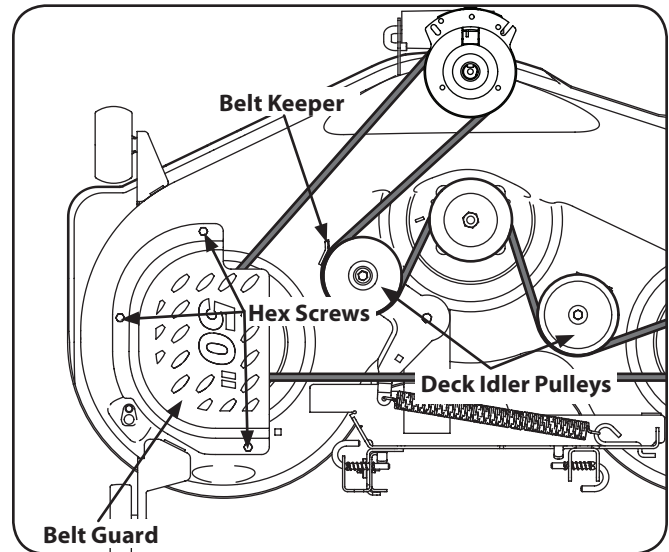

Figure 7-9
2. Remove the belt covers by removing the hex screws that fasten them to the deck. See Figure 7-9.
3. Loosen, but do not remove the left deck idler pulley and belt keeper mounted to the deck idler pulley bracket. See Figure 7-9.